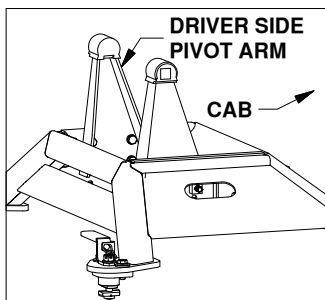
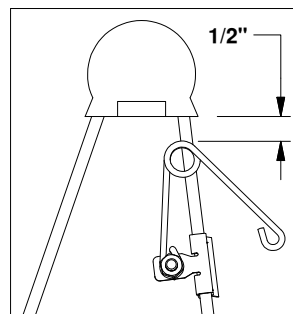

FIGURE B3: Base View
FIGURE B4: Driver side pivot arm.
2. Locate the flange which will be closest to the truck cab on the driver side pivot arm, see figure B3. The clip should be placed so that when the springs coil is in the line with the edge of the arm there will be 1/2" of clearance between the bottom of the rubber bumper and the top of the spring, see figure B4. Drive the clip securely onto the flange with a hammer.